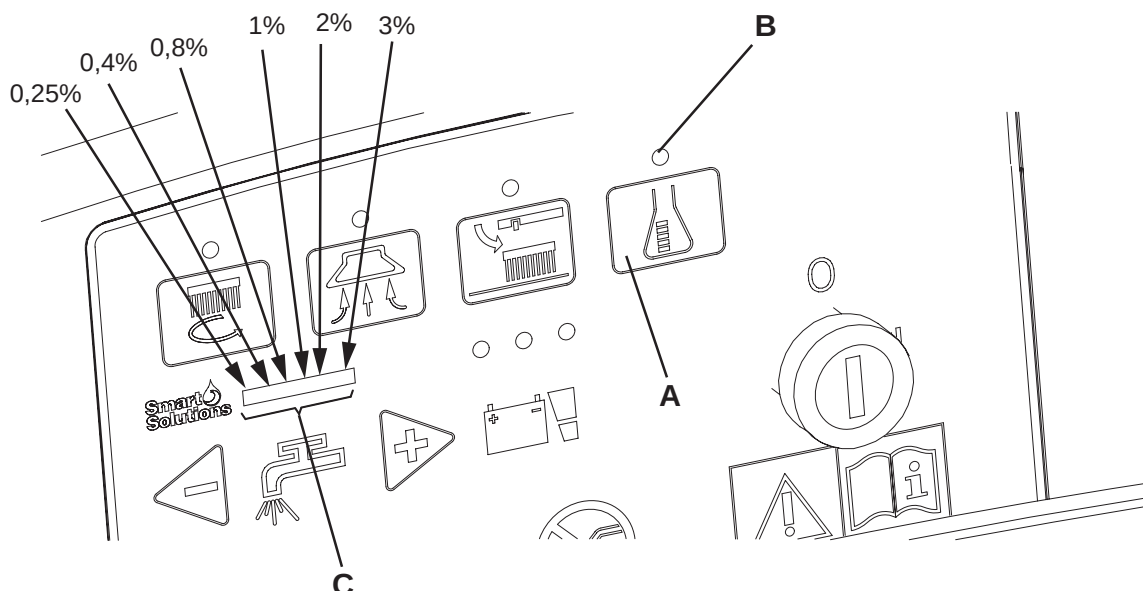

Figure 4
1. Turn off the flow control switch (A, Fig. 4) [the warning light (B) must be off].
2. Press and hold the flow control switch (A). 3 seconds after pressing the switch, the indicator (C) turns on, thus indicating the percentage, as shown in the figure.
3. Turn off the flow control switch (A, Fig. 4) [the warning light (B) must be off].
4. Press and hold the flow control switch (A) until the warning light (B) flashes.
5. Release the switch (A). Press it again shortly, to go to the next percentage shown by the indicator (C); repeat the procedure until the desired setting is reached.
6. Wait for the warning light (B) to turn off and for the indicator (C) to show the washing water flow: the new percentage value is now set.